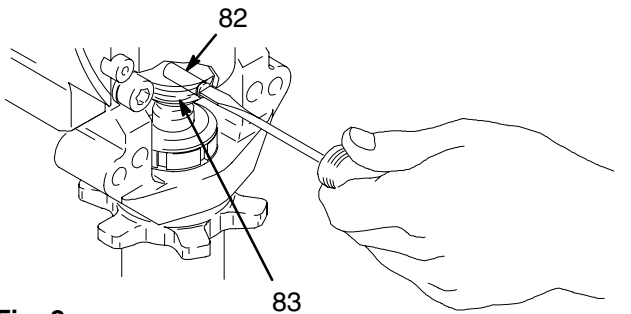

Fig. 2
3. Unscrew suction tube (27) from pump, hold wrench on pump intake valve (A) to keep pump from loosening.
4. Disconnect pump outlet hose (25) from displacement pump outlet nipple (107).
5. Fig. 2. Use screwdriver to push up retaining spring (83) at top of pump. Push out pin (82).